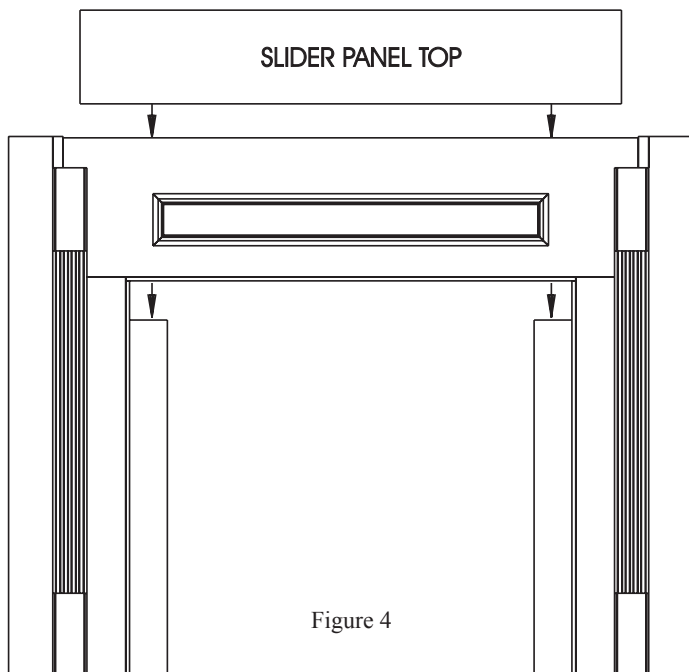

Figure 4
5. Insert slider panel top behind breastboard and rest on the top of slider panel sides (See Figure 4).